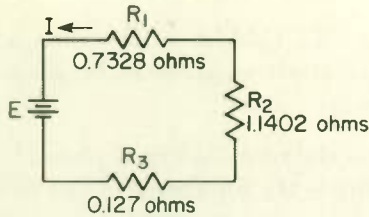

Fig. 3
3. (a) In the diagram shown in Fig. 3, if $R = R_1 + R_2 + R_3$, $R =$ _____ .